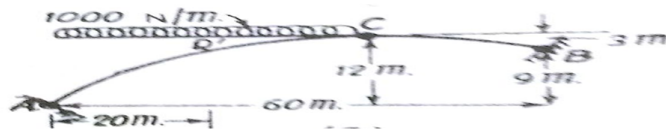

Figure 3
- (b) A three hinged parabolic arch 60m span has abutments at unequal level. The highest point of the arch is at 12m and 3m from two abutments as shown in Figure 3. Find the horizontal thrust and bending moment at D due to loading shown in Figure 3. [7M]